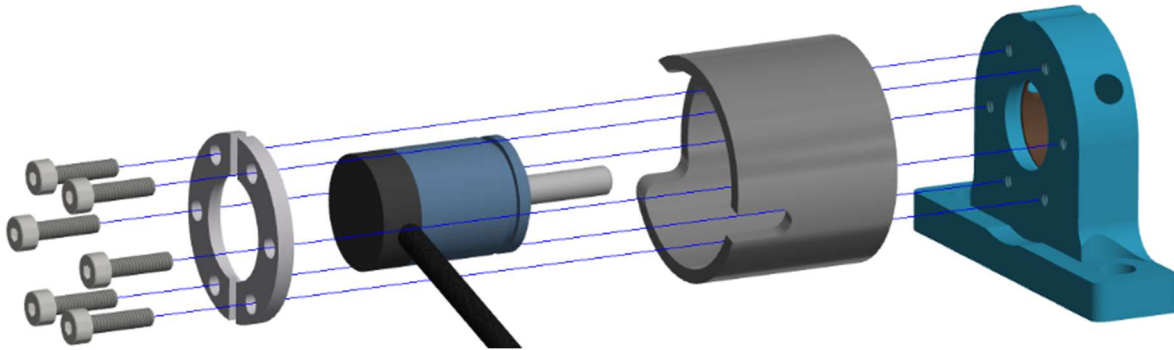

Figure 10-39. Attach the Y-potentiometer to the Ankle Bushing Plate (474-5826)
- 10.3.4 Attach the Y-potentiometer to the Ankle Bushing Plate (474-5826) using a Potentiometer Cap (483-5825), a Potentiometer Clamp (472-7581), and six M2 X 0.4 X 8 LG. SHCS (Figure 10-39).